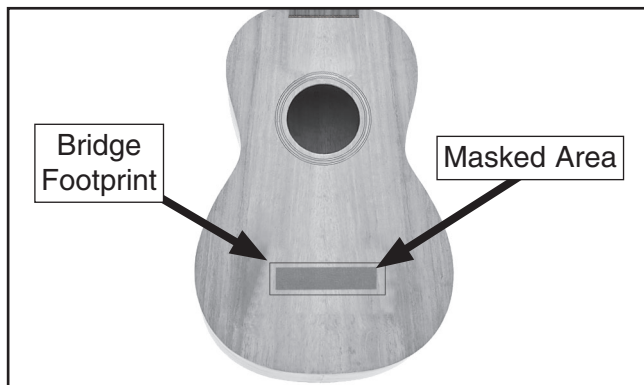

Figure 11. Masked off area for bridge.
- Mask the bridge mounting location, (see **Figure 11**).